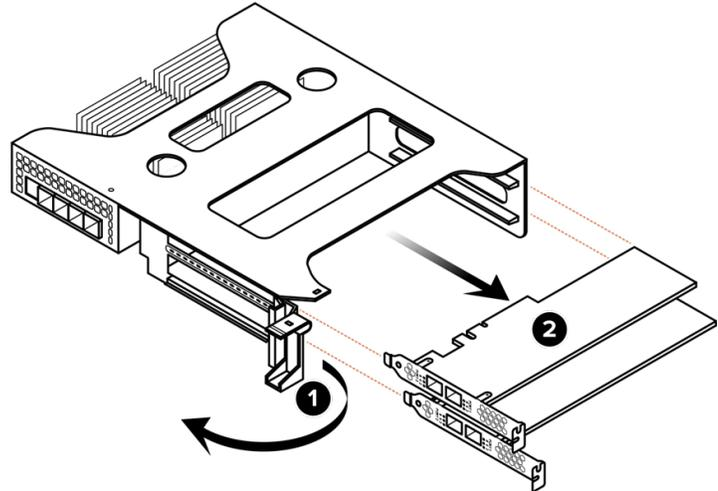

Figure 13-13. Removing PCIe Cards
2. Open the retaining clip to remove the PCIe cards from the riser. See Figure 13-13.